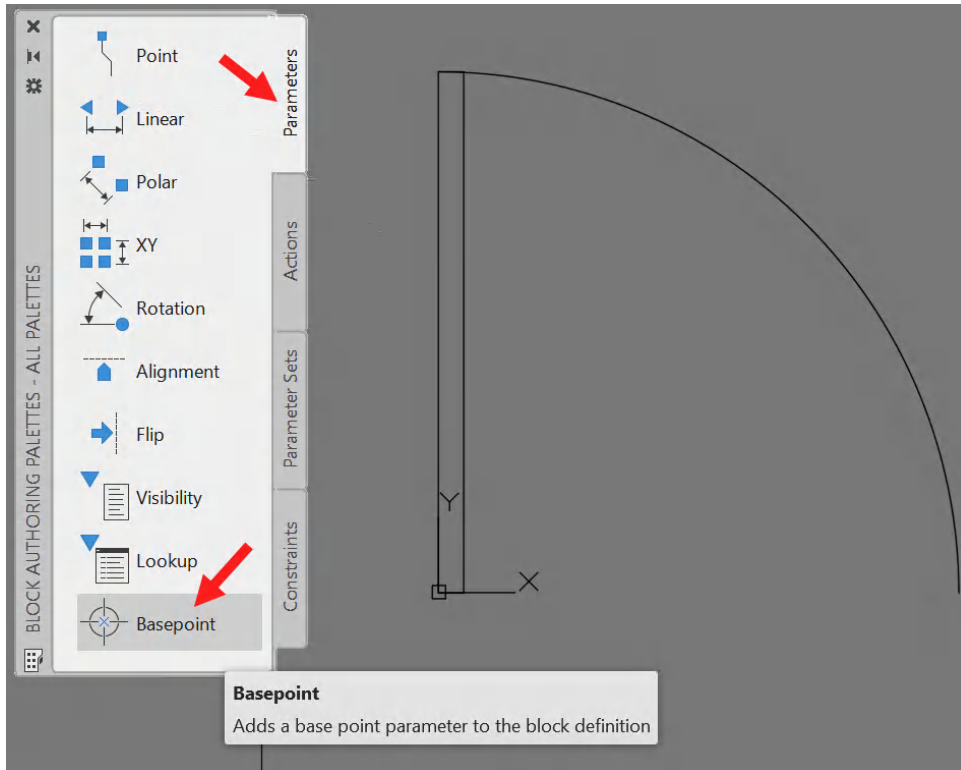

Figure 11.8: The Parameters tab with Basepoint arrowed
The main palette in the **Block Editor** is **Block Authoring Palettes** shown in *Figure 11.8* in **Block Editor**. It contains all the tools needed to create the vertical **Flip** parameter that we are going to add to our dynamic door block.
1. Select the **Parameters** tab and then select the **Basepoint** parameter, as arrowed in *Figure 11.8*.